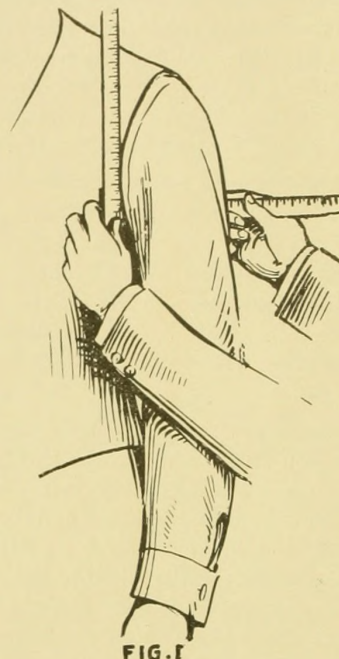

FIG. 1
4. **Place the Square** under the arm on the "Left" side of the customer, for the reason that the person is more normal on the **left side**; also that it is more convenient, because you are then applying **all the measures with the right hand**, the left hand doing nothing but holding the tape line in position (unless you should be a **left-handed** person. Place the square with the short arm extending upwards and the long arm horizontally under the arm and close against the front of the arm; mark with the chalk in **front** of the square. (See Fig. 1.)